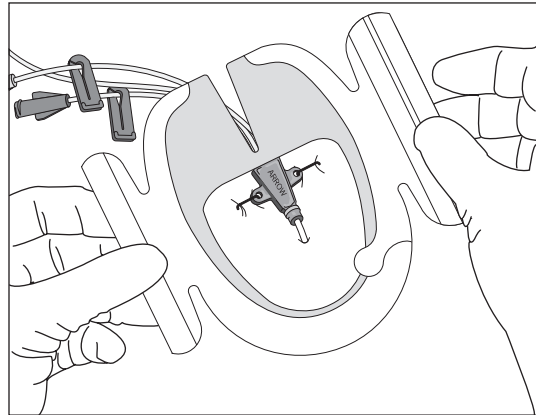

Figure 3
- Adhere center of transparent window over insertion site, while holding notched portion off the skin (refer to Figure 3).